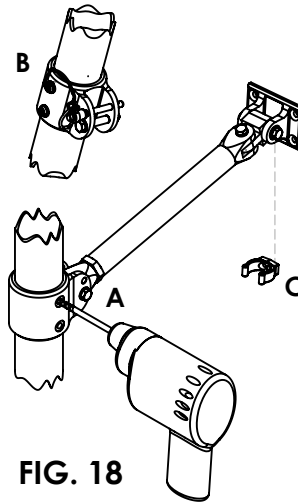

FIG. 18
J- Un-tape the back bar collar and drill (2) 1/4 holes thru the rigger tube (holes are pre-drilled in collar). See FIG 18 at A. Bolt collar in place.
A- Un-tape the hold-in collar and drill two 1/4 holes through the rigger tube (holes are predrilled in collar). See FIG 18 at A. Bolt collar in place. Secure quick release pin with the loop of cable under one bolt head. See FIG 18 at B.
C- Attach spring clip with two screws below the hold-in toggle plate on the bridge to secure the hold-in arm while rigger is out. See FIG 18 at C.